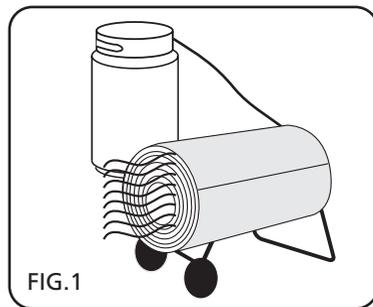

FIG.1
8.1 GUIDELINES OF FUEL GASES - FIG. 1